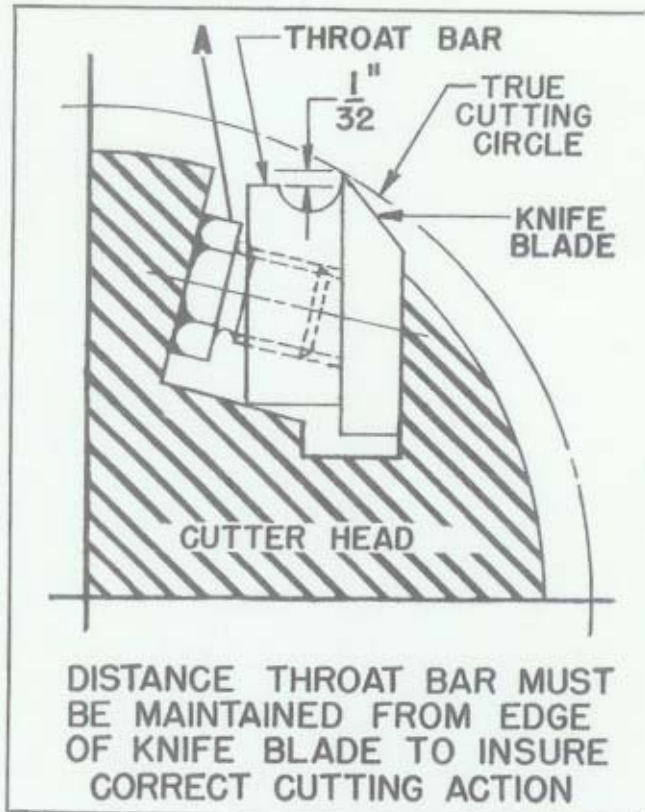

Fig. 28.
3. Loosen the nine knife screws (A) Fig. 28, by screwing them into the knife bar using the special wrench supplied.
6. Insert the knife and knife bar in slot and back out the knife screws just enough to hold the knife. Refer to Fig. 28, for the distance the throat bar must be maintained from edge of knife blade to insure correct cutting action.